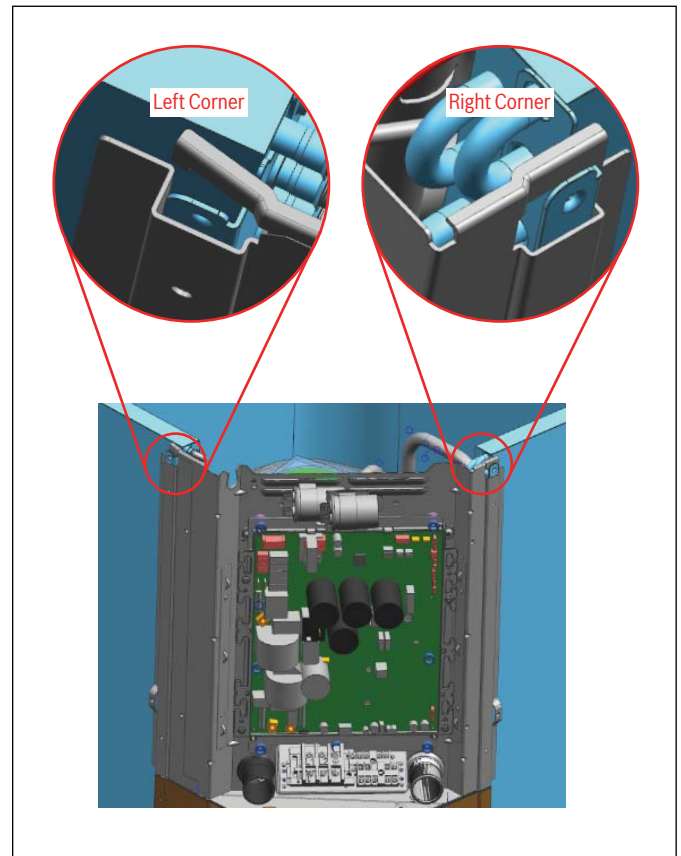

Figure 10 Top Corner of E-Box
13. Slide in the new E-box in from the top and secure with screws saved in Step 8. Note: The sides of the E-box should line up and slide into the guide rails on the unit. Refer to Figure 10.